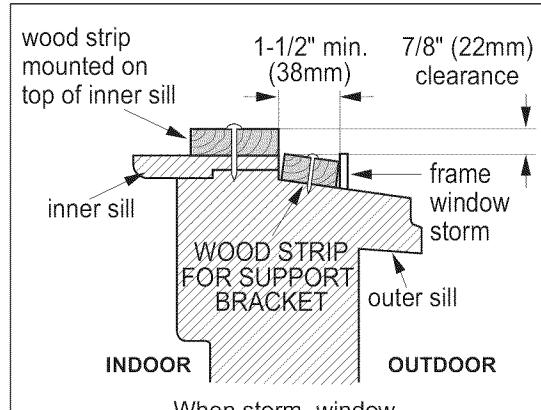

FIG. 11
- \* If storm window presents interference, fasten a 2" (51mm) wide wood strip to the inner window sill across the full width of the sill. The wood strip should be thick enough to raise the height of the window sill so that unit can be installed without interference from the storm window frame. See FIG.11. Top of wood strip should be approximately 7/8" (22mm) higher than the storm window frame to help condensation to drain properly to the outside.
- \* Install a second wood strip (approximately 6" (152mm) long by 1-1/2" (38mm) wide and same thickness as the first strip) in the center of the outer sill flush against the back of the inner sill. See FIG.11.